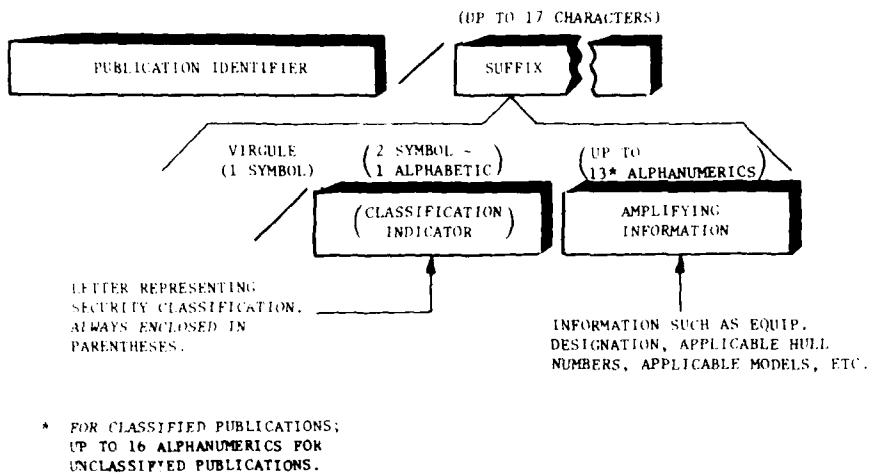

Figure 1-4. PI Suffix Composition
1.4.2 PI SUFFIX COMPOSITION. The PI Suffix has a variable composition. For classified manuals and separately-bound unclassified portions of classified manuals, the PI Suffix may be composed of two major components (Figure 1-4). For unclassified manuals the security classification indicator is not used.
1.4.2.1 Classified Manuals. The PI Suffix is always used with classified manuals. In such cases, the security classification indicator always forms the first component of the suffix. As indicated in Figure 1-4, the security classification indicator is always a letter representing the level of classification and is always enclosed in parentheses. The second component in the suffix for a classified manual is the amplifying information.